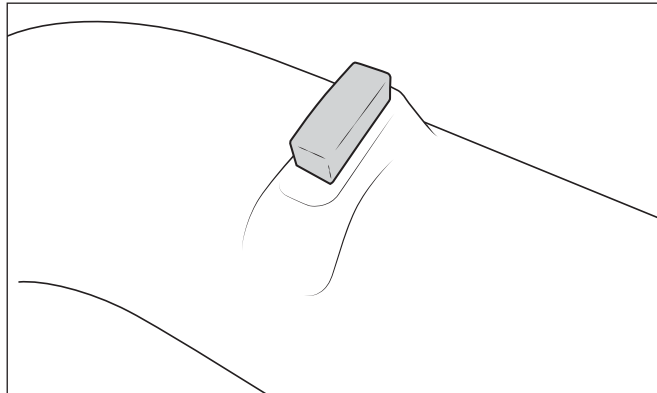

Figure 14
8. Attach the supplied adhesive foam to the intake tube as shown (fig. 14).